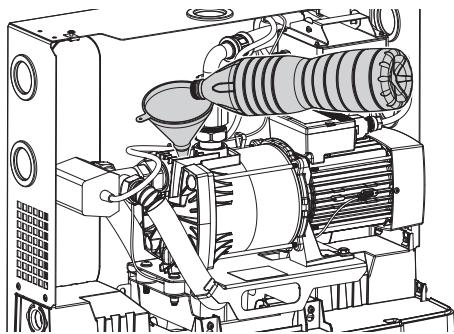

Fig. 22: Pump filling
2. Fill the pump with clear water via a funnel (Fig. 22).